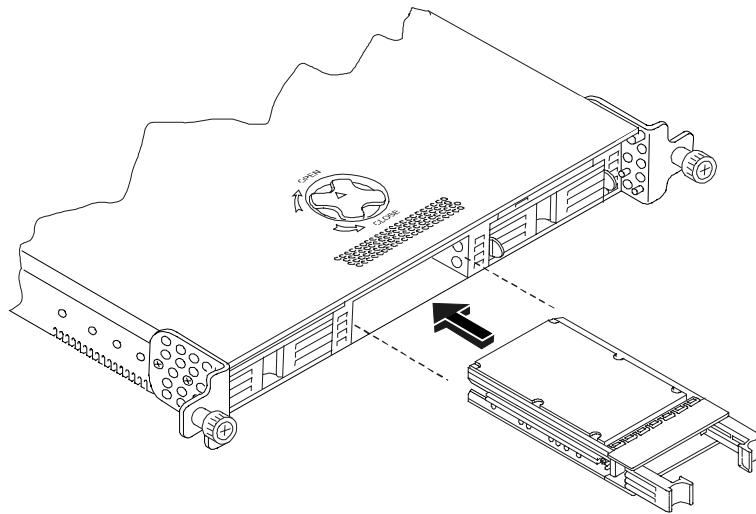

Figure 3-3. Inserting the Drive
2. Remove the SCSI drive from its protective packaging and open the ejector arms as shown in Figure 3-3.
3. Gently slide the SCSI drive into the chassis, until you feel resistance. See Figure 3-3.